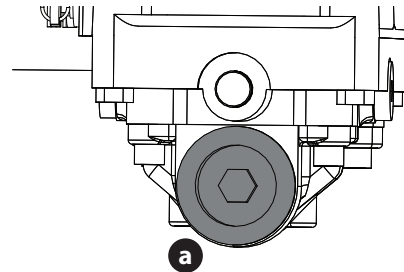

Figure 44
2. Place a suitable container under the drain plug (a) on the transmission. Remove the drain plug (a) and allow the transmission oil to drain (Figure 44).